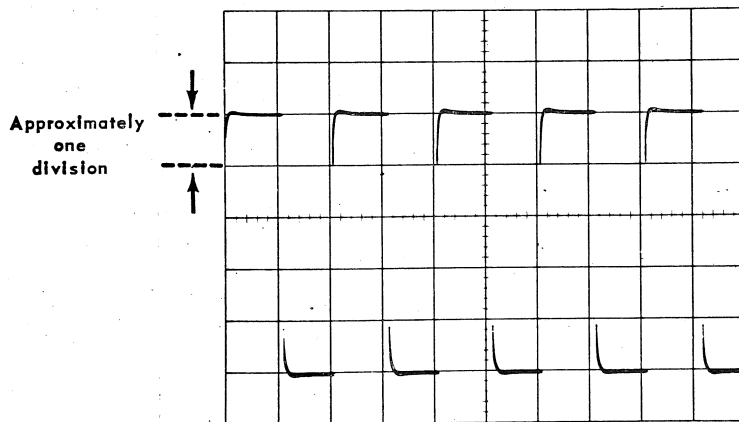

Fig. 6-11A
g. CHECK--Test oscilloscope display for about one-division front-corner rounding at normal CRT intensity, similar to Fig. 6-11A.
h. ADJUST - C201 (see Fig. 6-11C) for about one-division front-corner rounding as shown in Fig. 6-11A. More rounding may reduce triggering circuit frequency response and less rounding may produce unstable triggering.